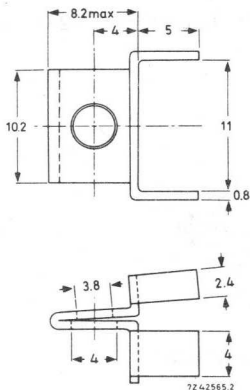

Fig.4a. Metal mounting bracket 4332 026 04760
- metal bracket for rail or panel mounting (catalogue number 4332 026 04760), Fig.4a